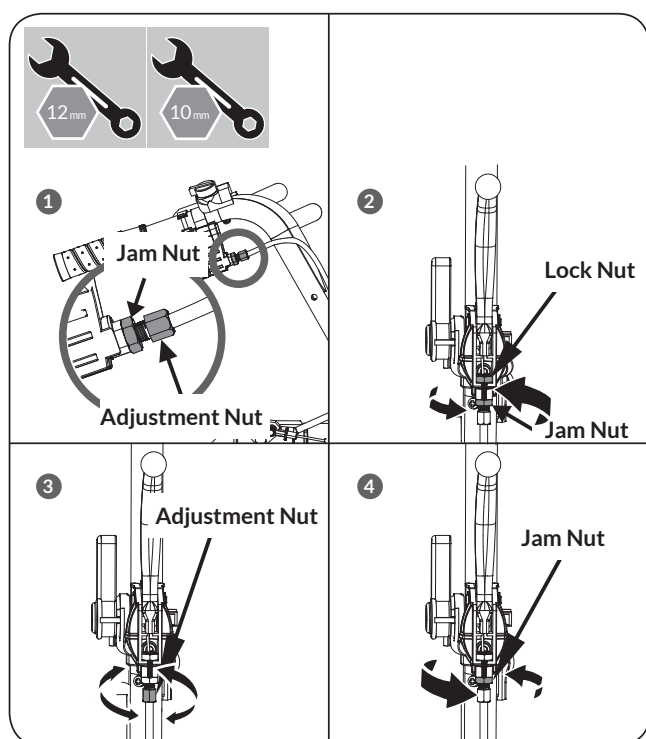

Figure 8b
1. Loosen the jam nut by turning it counter clockwise with 12mm wrench while holding the lock nut in place with 10mm wrench. (See **Figure 8b, Illustration 2**)
2. While holding the lock nut in place with a 10mm wrench, tighten (or loosen) the cable by turning the cable adjustment nut clockwise (or counter clockwise) with a 10mm wrench until you have reached your desired tightness. (See **Figure 8b, Illustration 3**)
3. Once you have reached your desired cable tightness, tighten the jam nut by turning it clockwise until it is tight against the lock nut. (See **Figure 8b, Illustration 4**)